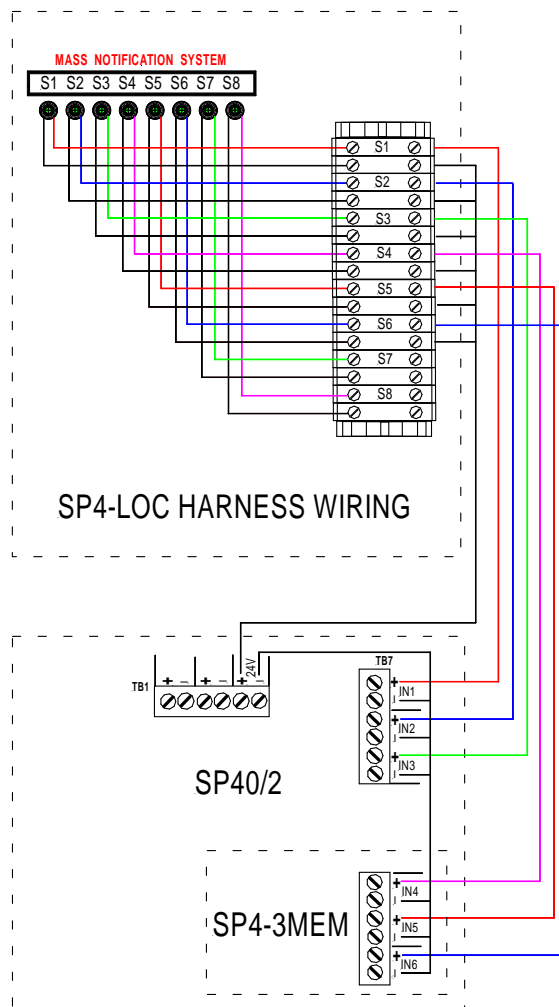
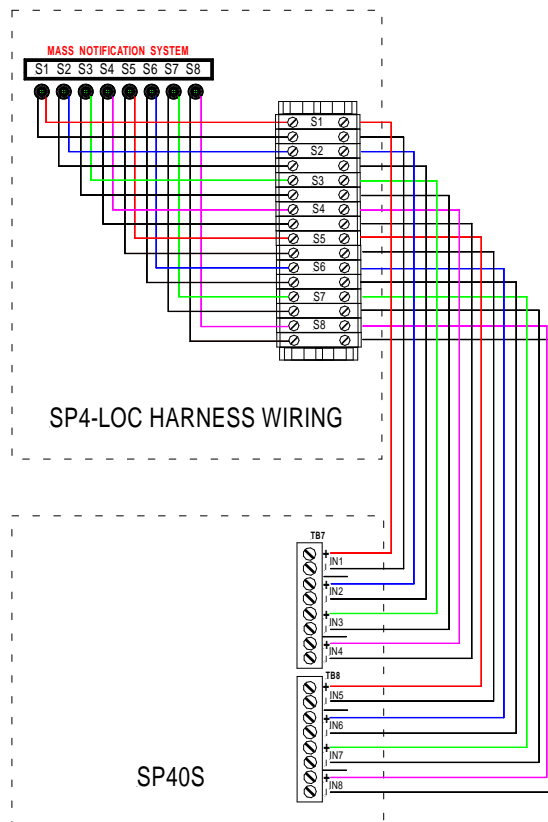

Figure 4. Wiring Diagram SP4-LOC to SP40/2
Figure 5. Wiring Diagram SP4-LOC to SP40S
8. Connect the pushbutton wiring to the terminal block as shown in Figure 4 (SP40/2) and Figure 5 (SP40S).